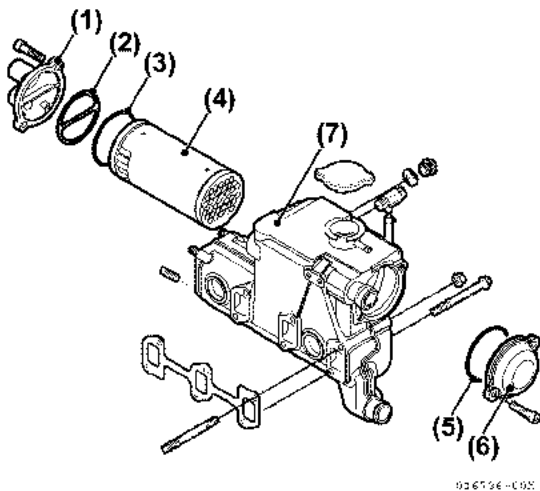

Figure 7-27
2. Remove outlet cover (**Figure 7-27, (1)**), (**Figure 7-28, (1)**) and gasket (**Figure 7-27, (2)**), (**Figure 7-28, (2)**).
3. Remove inlet cover (**Figure 7-27, (6)**) and (**Figure 7-28, (7)**) and gasket (**Figure 7-27, (5)**) and (**Figure 7-28, (6)**).
4. Pull core from housing (**Figure 7-27, (4)**) and (**Figure 7-28, (4)**).
5. Remove O-rings (**Figure 7-27, (3), (5)**), (**Figure 7-28, (3), (5)**).
8. **NOTICE:** Always install new O-rings. Install new O-ring (**Figure 7-27, (5)**), (**Figure 7-28, (5)**) on cooler core.
9. Install cooler core (**Figure 7-27, (4)**), (**Figure 7-28, (4)**), gasket and inlet cover (**Figure 7-27, (6)**), (**Figure 7-28, (6), (7)**).
10. Install O-ring (**Figure 7-27, (3)**), (**Figure 7-28, (3)**) on cooler core.
11. Install gasket and outlet cover (**Figure 7-27, (1), (2)**), (**Figure 7-28, (1), (2)**).